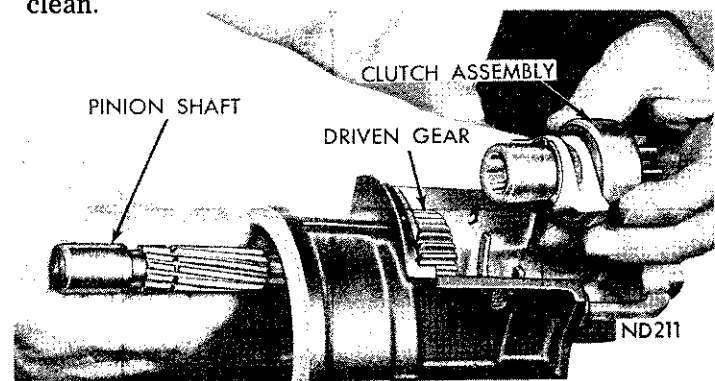
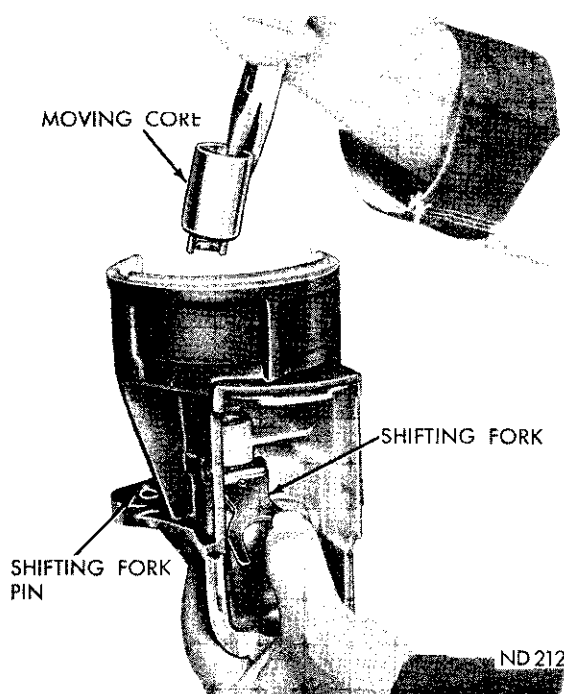

Fig. 9—Removing or Installing Clutch Assembly
Fig. 10—Removing or Installing Moving Core
clutch and pinion assembly, with the two shift fork nylon actuators as an assembly (Fig. 9).
(18) Remove driven gear and friction washer.
(19) Pull shifting fork forward and remove solenoid moving core (Fig. 10).
(1) Position shifter fork in drive housing and install shifting fork retainer pin. One tip of pin should be straight, the other tip should be bent at a 15 degree angle away from the housing. The fork and retainer pin should operate freely after bending tip of pin.
(2) Install solenoid moving core and engage shifting fork (Fig. 10).
(3) Enter pinion shaft into drive housing and install friction washer and drive gear.
(4) Install clutch and pinion assembly, thrust washer, retaining and thrust washer (Fig. 9).